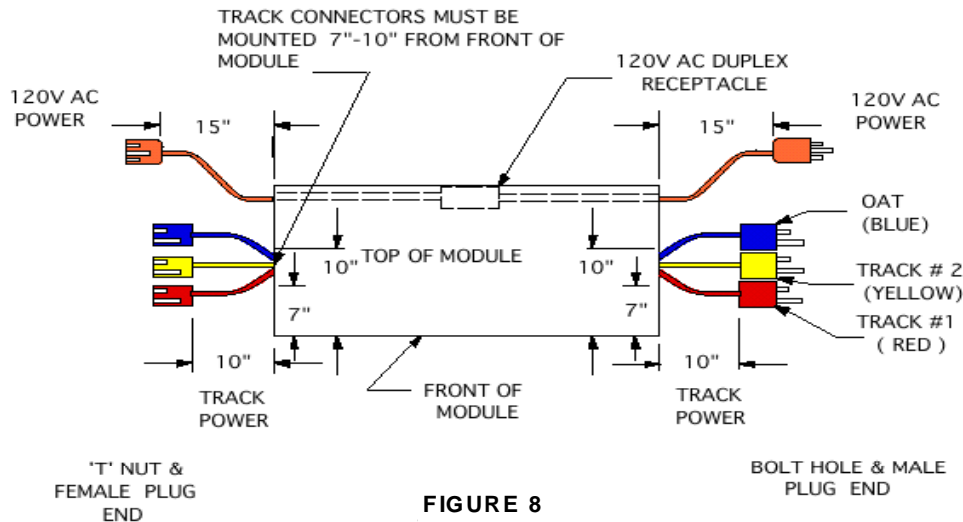

FIGURE 8
4. A 10 inch stranded 2 conductor, 14 gauge or larger, pigtail must be provided for each bus at each end of the module for connection to the adjoining module. The pigtails will be located 7"-10" from the front of the module using the connectors described in section D below. (Figure 8)
1. The male connector shall be on the right hand end as viewed from front of module. The female connector shall be on left hand end. (Figure 8)
- C. The male plug is located at the right hand end of the module and the female plug at the left hand end of the module (as viewed from the front - see Figure 8)